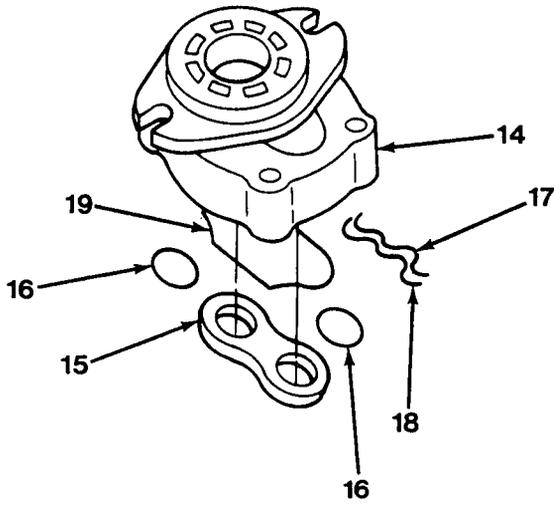
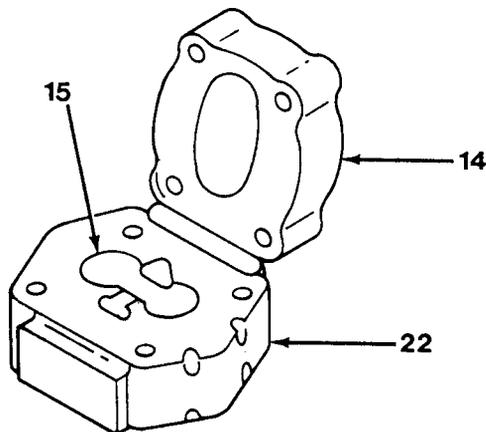

Figure 13-4
Figure 13-3
7. Install two O-rings (16) in thrust plate (15, Figure 13-4).
8. Install thrust plate (15) in flange (14) as recorded during disassembly.
9. Install new O-ring (19), back-up ring (18) and O-ring (17) in flange (14).
10. Align matchmarks and install flange (14) on gear plate (22, Figure 13-3).